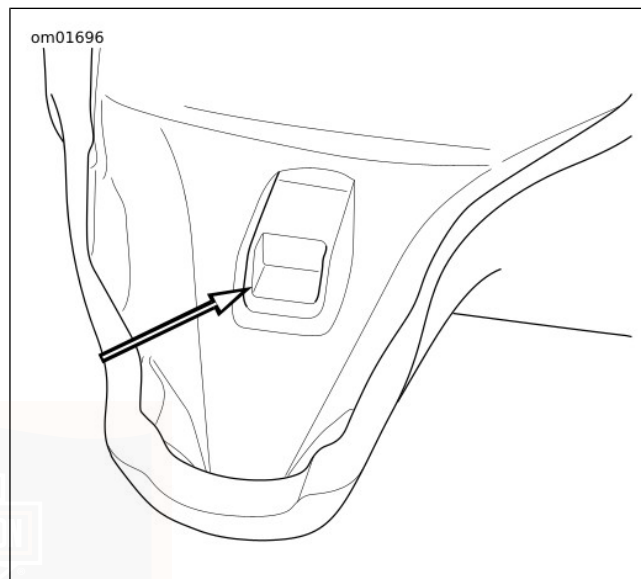

Figure 101. Seat Mounting Slot
1. See Figure 101. Firmly push front of seat downward and forward until slot engages tongue.
1. See Figure 101. Place seat on frame backbone.